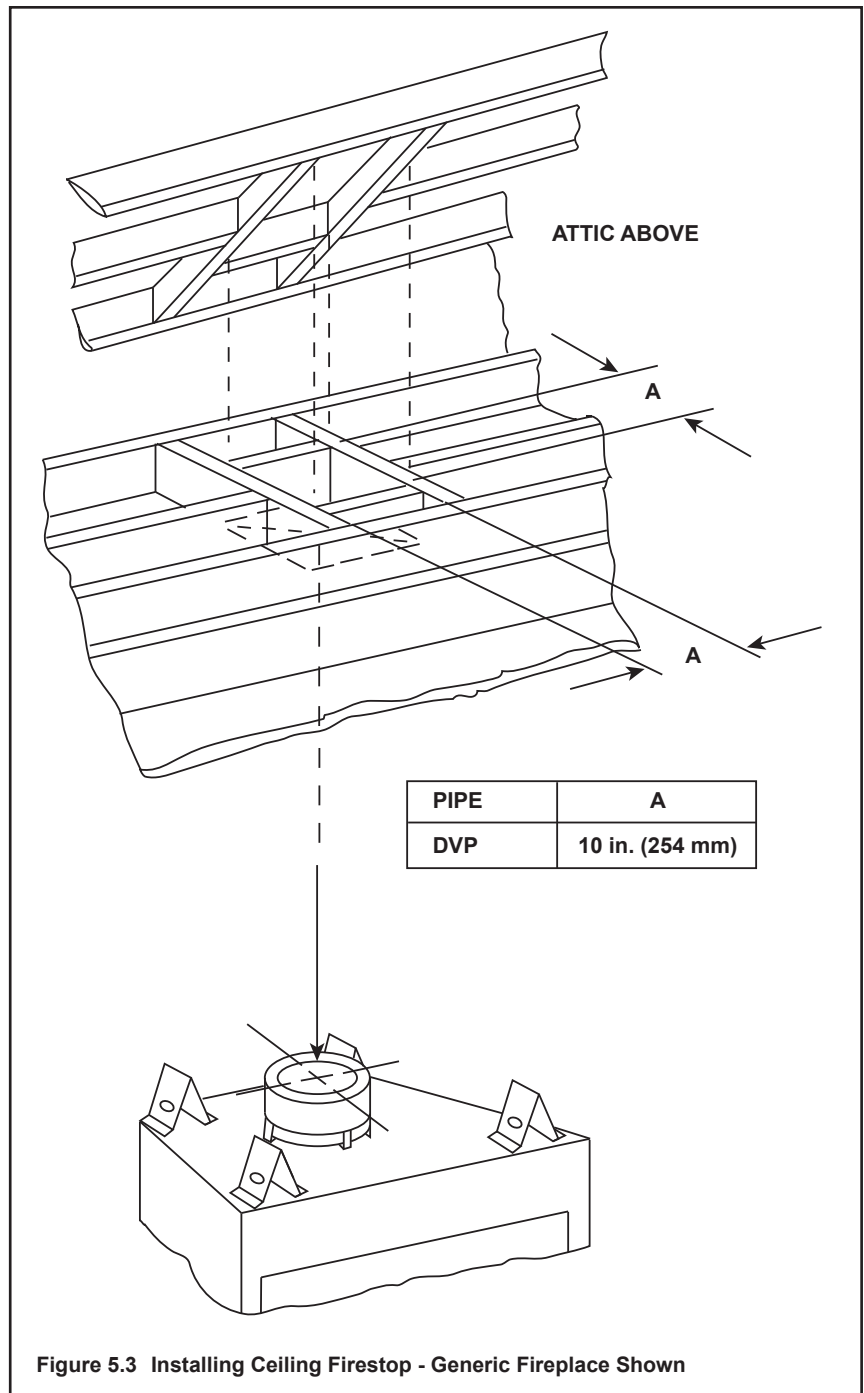

Figure 5.3 Installing Ceiling Firestop - Generic Fireplace Shown
- **DVP pipe only** - Frame an opening 10 in. by 10 in. (254 mm by 254 mm) whenever the vent penetrates a ceiling/floor (see Figure 5.3).